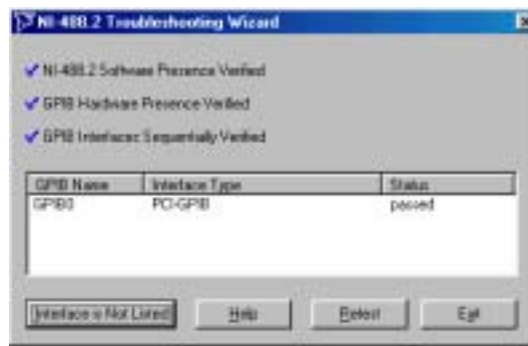

Figure 2–3 NI-488.2 Troubleshooting Wizard
5. When the software, hardware and interfaces have been verified, as shown in Figure 2–3 NI-488.2 Troubleshooting Wizard, click **Exit**.